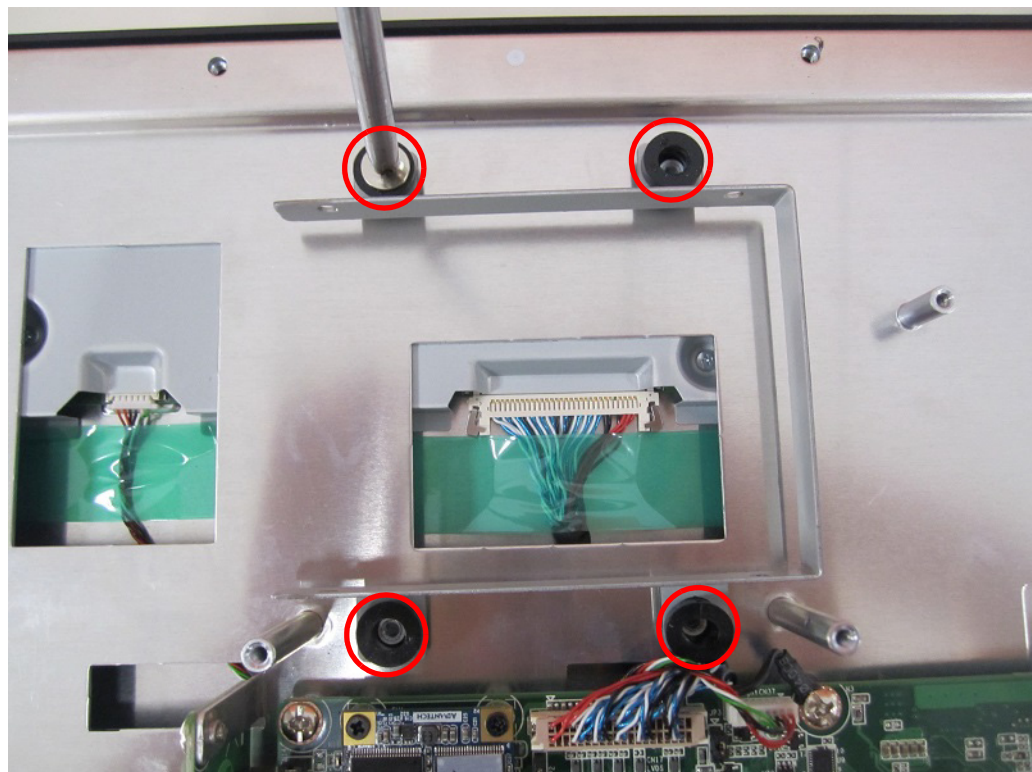

Figure 2.11
3. Remove the four screws (circled in red in Fig. 2.11) to remove the HDD cover.